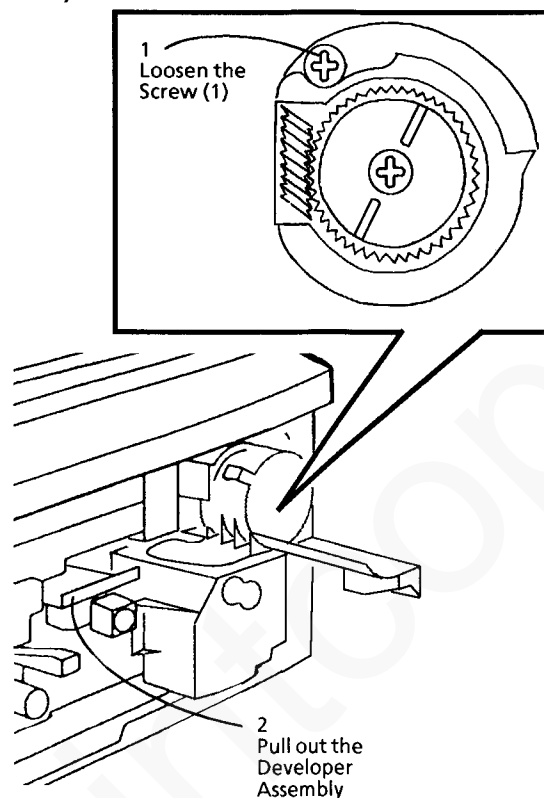

Figure 2. Removing the Developer Assembly
3. Remove the Developer Assembly (Figure 2).